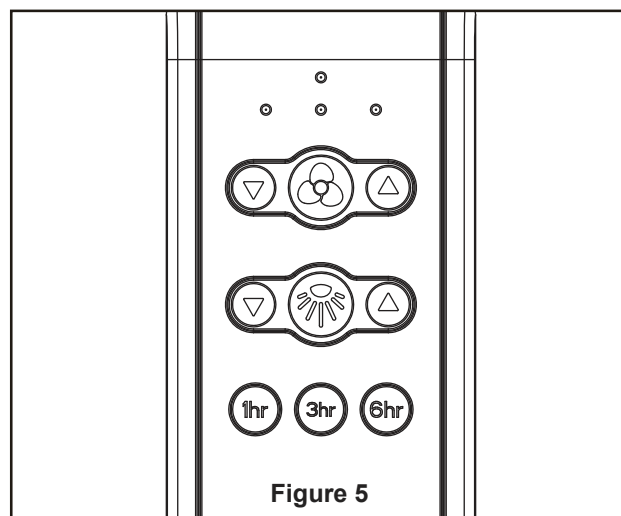

Figure 5
- ☐ 4. Once the connection has been made, slide the receiver into the hanger bracket, taking care not to pinch the wires. (Figure 5)
- ☐ 5. Assemble the inner-switch cup to the support-cover switch cup using the two key slots in the inner-switch cup. Replace the previously removed screw and securely tighten all three screws. (Figure 5)
5. Remote functions: (Figure 5)